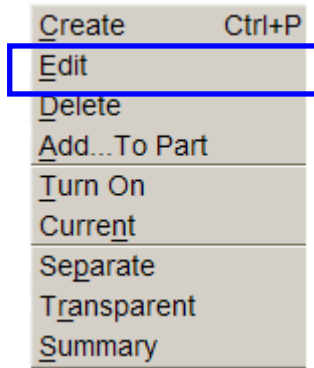

Figure 13: Edit part command
The **Edit Part** command, illustrated in Figure 13, is used to edit part properties and delete parts.
1. As illustrated in Figure 13, select the **Edit** function.